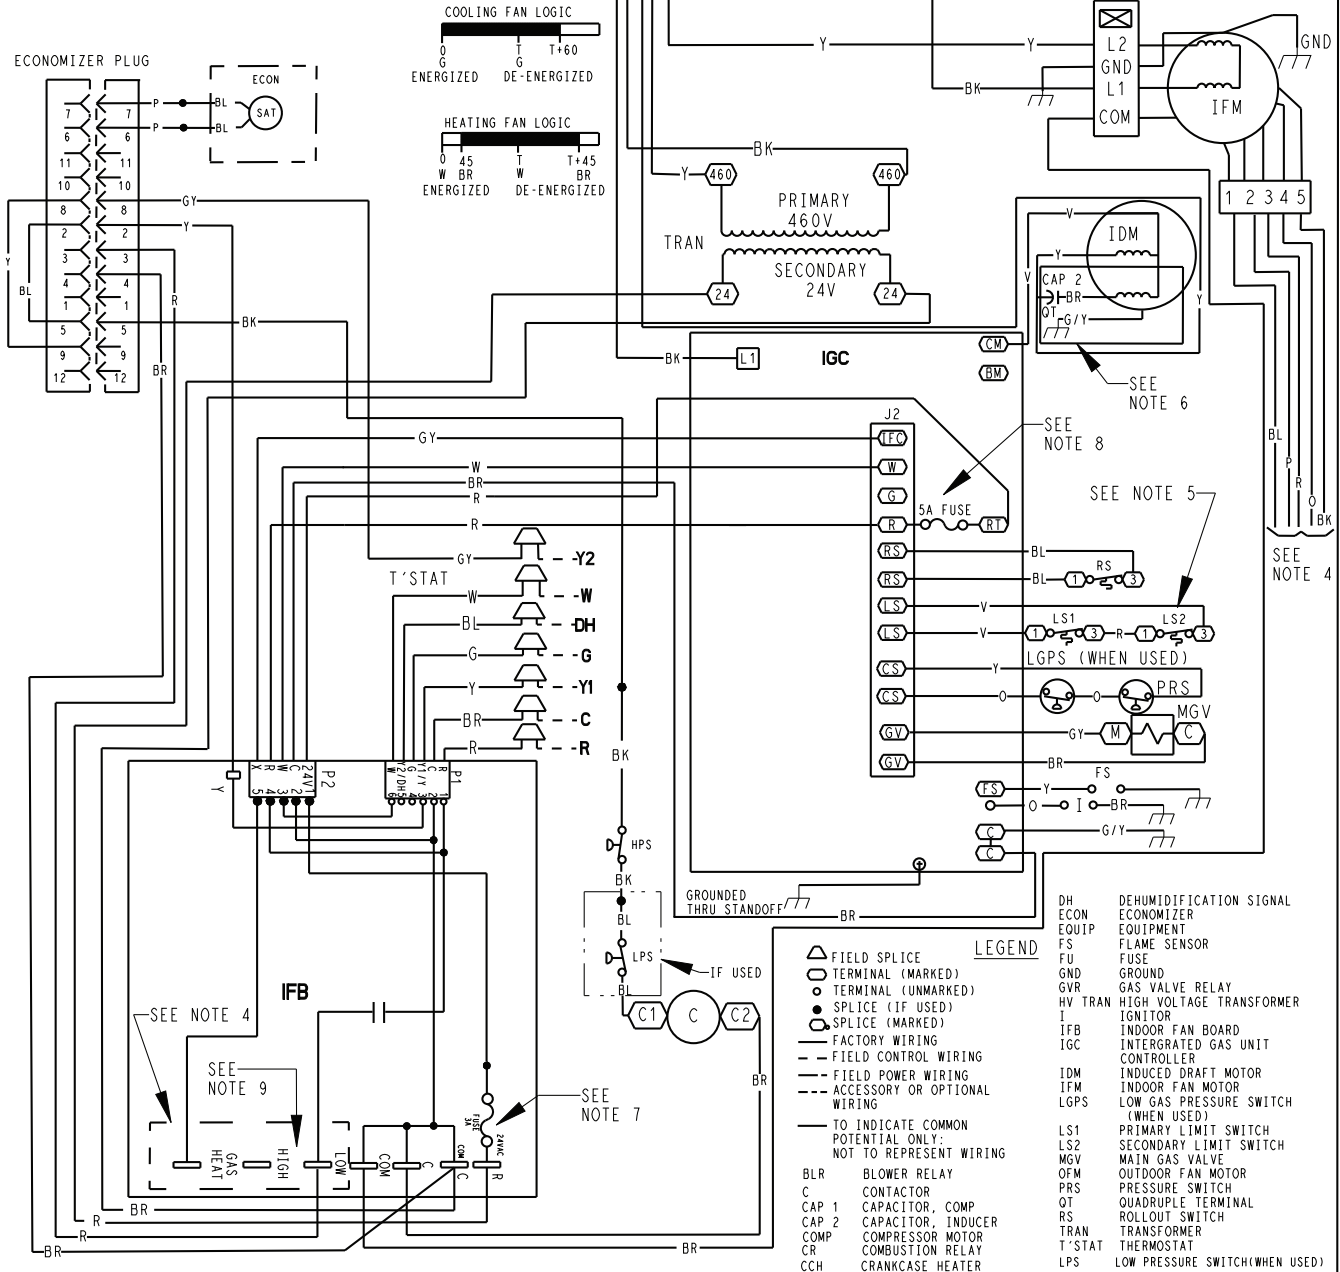

Fig. 18 - 460-3-60 Connection Wiring Diagram
2. Remove the current speed tap wire from the “GAS HEAT” terminal on the interface fan board (IFB) (Fig.18) and place vinyl cap over the connector on the wire.